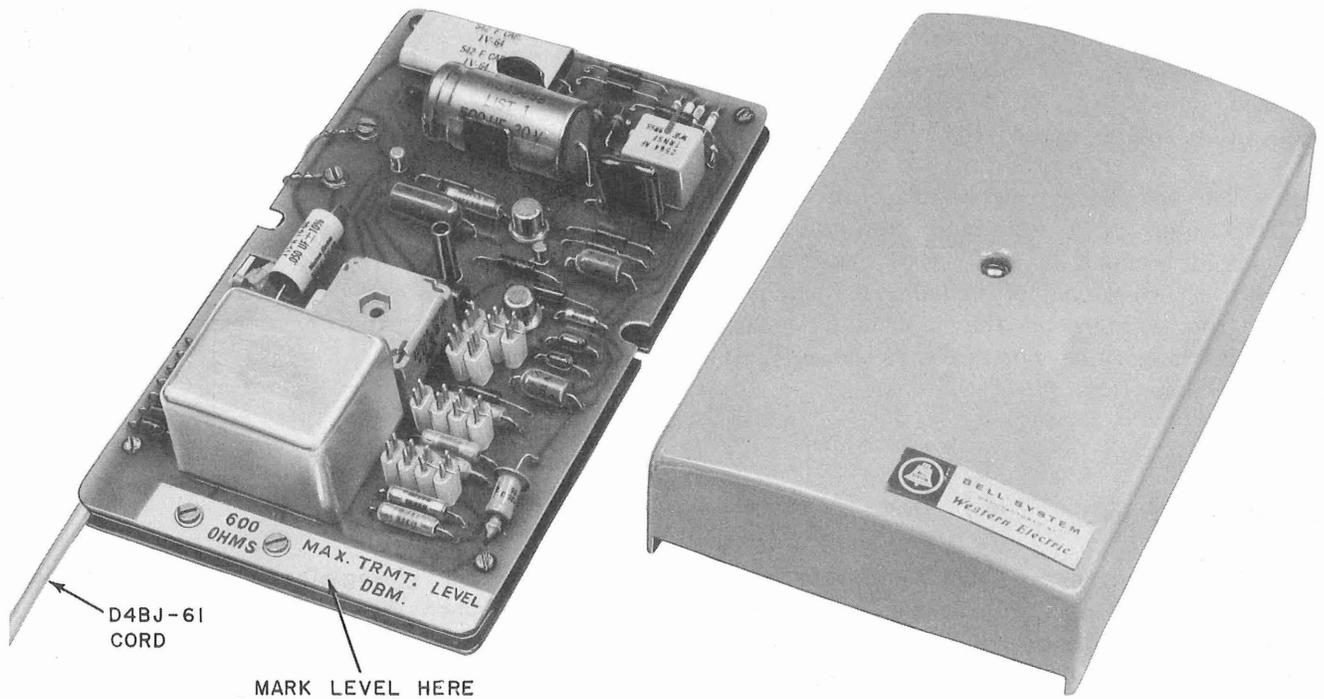

Fig. 2—Data Coupler, Interior View
the customer apparatus, and a D4BJ-61 cord for connecting to the telephone line or associated telephone set (Fig. 2). Slots on the base are provided for mounting the unit on the wall. Terminals located on the circuit pack are strapped by the installer to limit the input to the data coupler and to adjust the clipping level.
**3.08** Using the row located in 3.06 and the column marked MAXIMUM ALLOWABLE CUSTOMER LEVEL, determine the value which shall be marked, in pen or pencil, on the coupler label (Fig. 2).